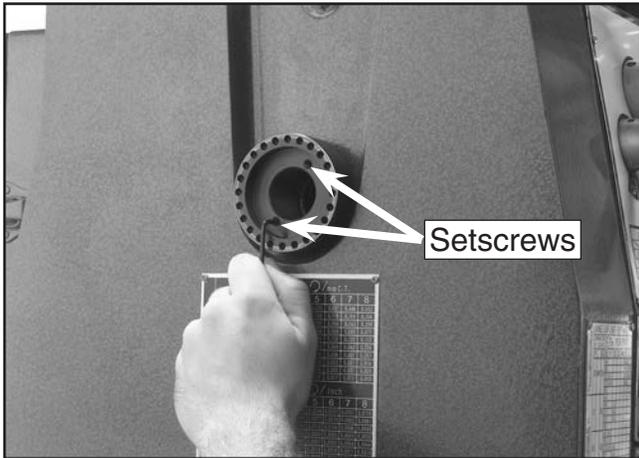

Figure 5. Installing hub adapter.
2. Thread the hub adapter completely into the outboard end of the lathe spindle. Secure the hub adapter to the spindle by tightening the setscrews shown in **Figure 5**.